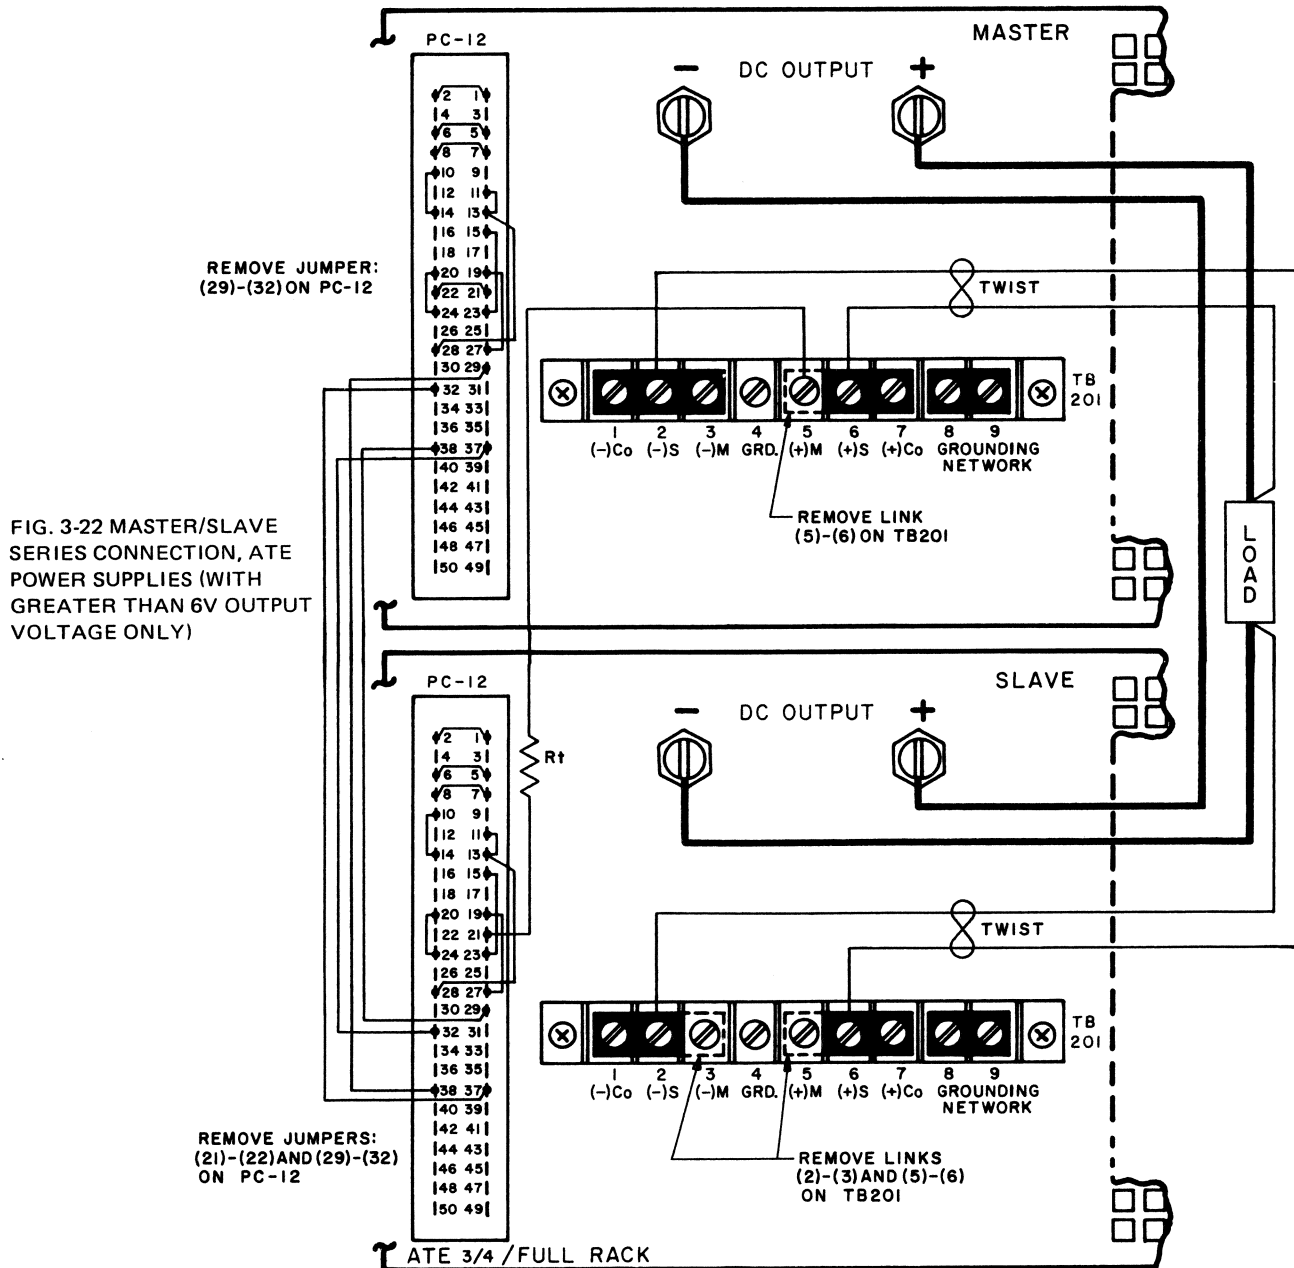

FIG. 3-22 MASTER/SLAVE SERIES CONNECTION, ATE POWER SUPPLIES (WITH GREATER THAN 6V OUTPUT VOLTAGE ONLY)
$$R_t = \frac{55\text{V}}{1\text{mA}} - 10\text{K} = 45\text{K ohms, and connecting the system as shown in FIG. 3-22 will produce the desired result.}$$
- 3) Interconnect power supplies as shown in FIG. 3-22. Note: Only one SLAVE unit is shown, but more can be added. Turn MASTER supply VOLTAGE CONTROL to its maximum counterclockwise position.